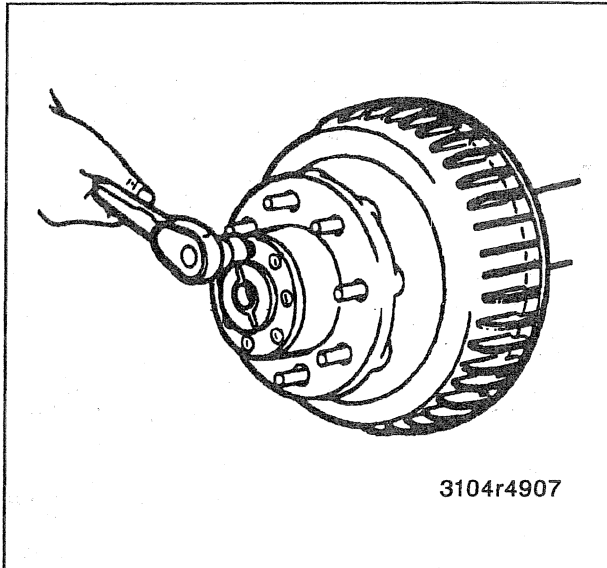

Figure 26—Removing or Installing Flange-to-Hub Bolts
Remove or Disconnect (Figures 26 and 27)
Install or Connect (Figures 26 and 27)
2. Bolts (figures 26 and 27).